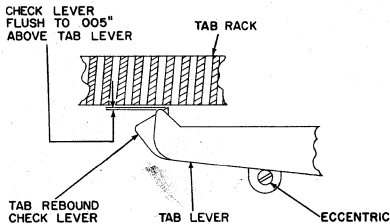

Figure 49
25. Loosen the mounting nut and adjust the small eccentric on the bottom of the tab lever to regulate the height of the tab rebound check lever so it is flush to .005" above the height of the tip of the tab lever (.000" to .005"), with the tab mechanism latched. With the power off, latch up the tab with no tab stops in the way (the carriage will be held by the governor) and perform the adjustment. Tighten the mounting nut without disturbing the setting of the eccentric (Figure 49).